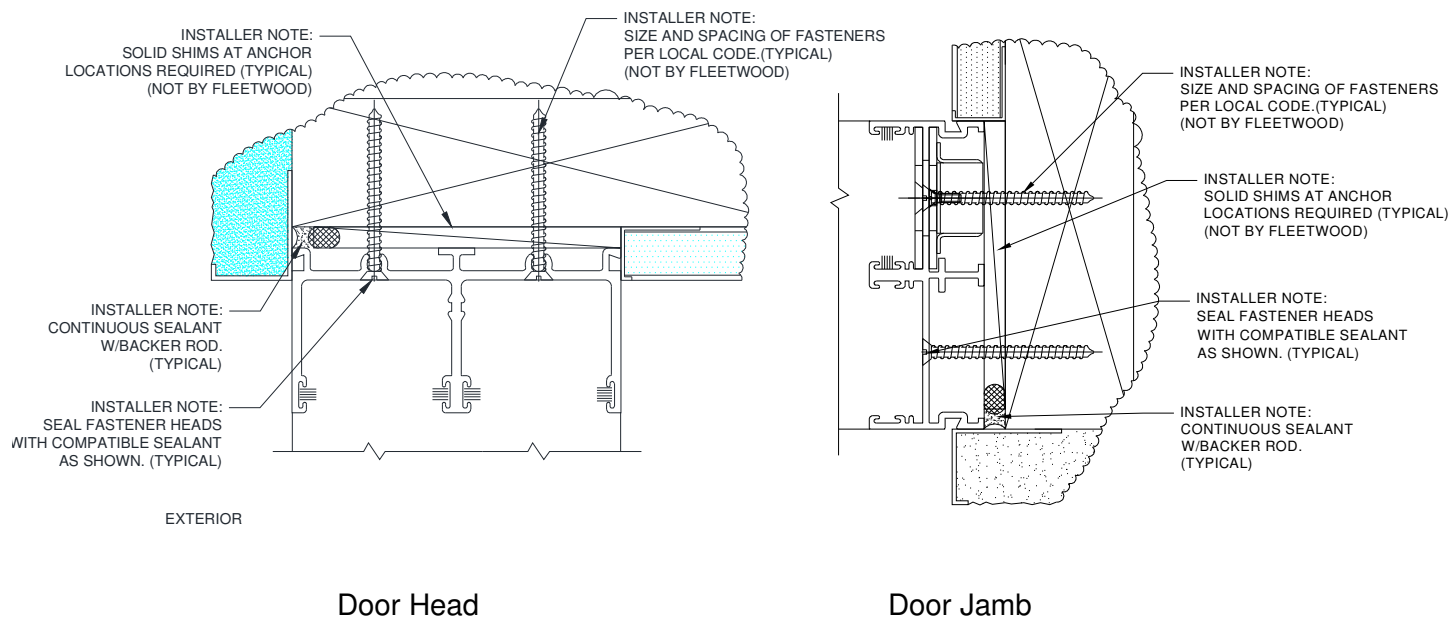

Figure 19:
2. Attach frame to structure as shown below (Figure 19). On pocket doors using the 2 Piece Pocket Interlocker and L-type Pocket Interlocker it is important to locate the frame 3/8" from the inside pocket wall to allow for proper interlocking of panel with post interlocker. On installations where the J-Post Pocket interlocker clip is used, a 5/16" distance is required.